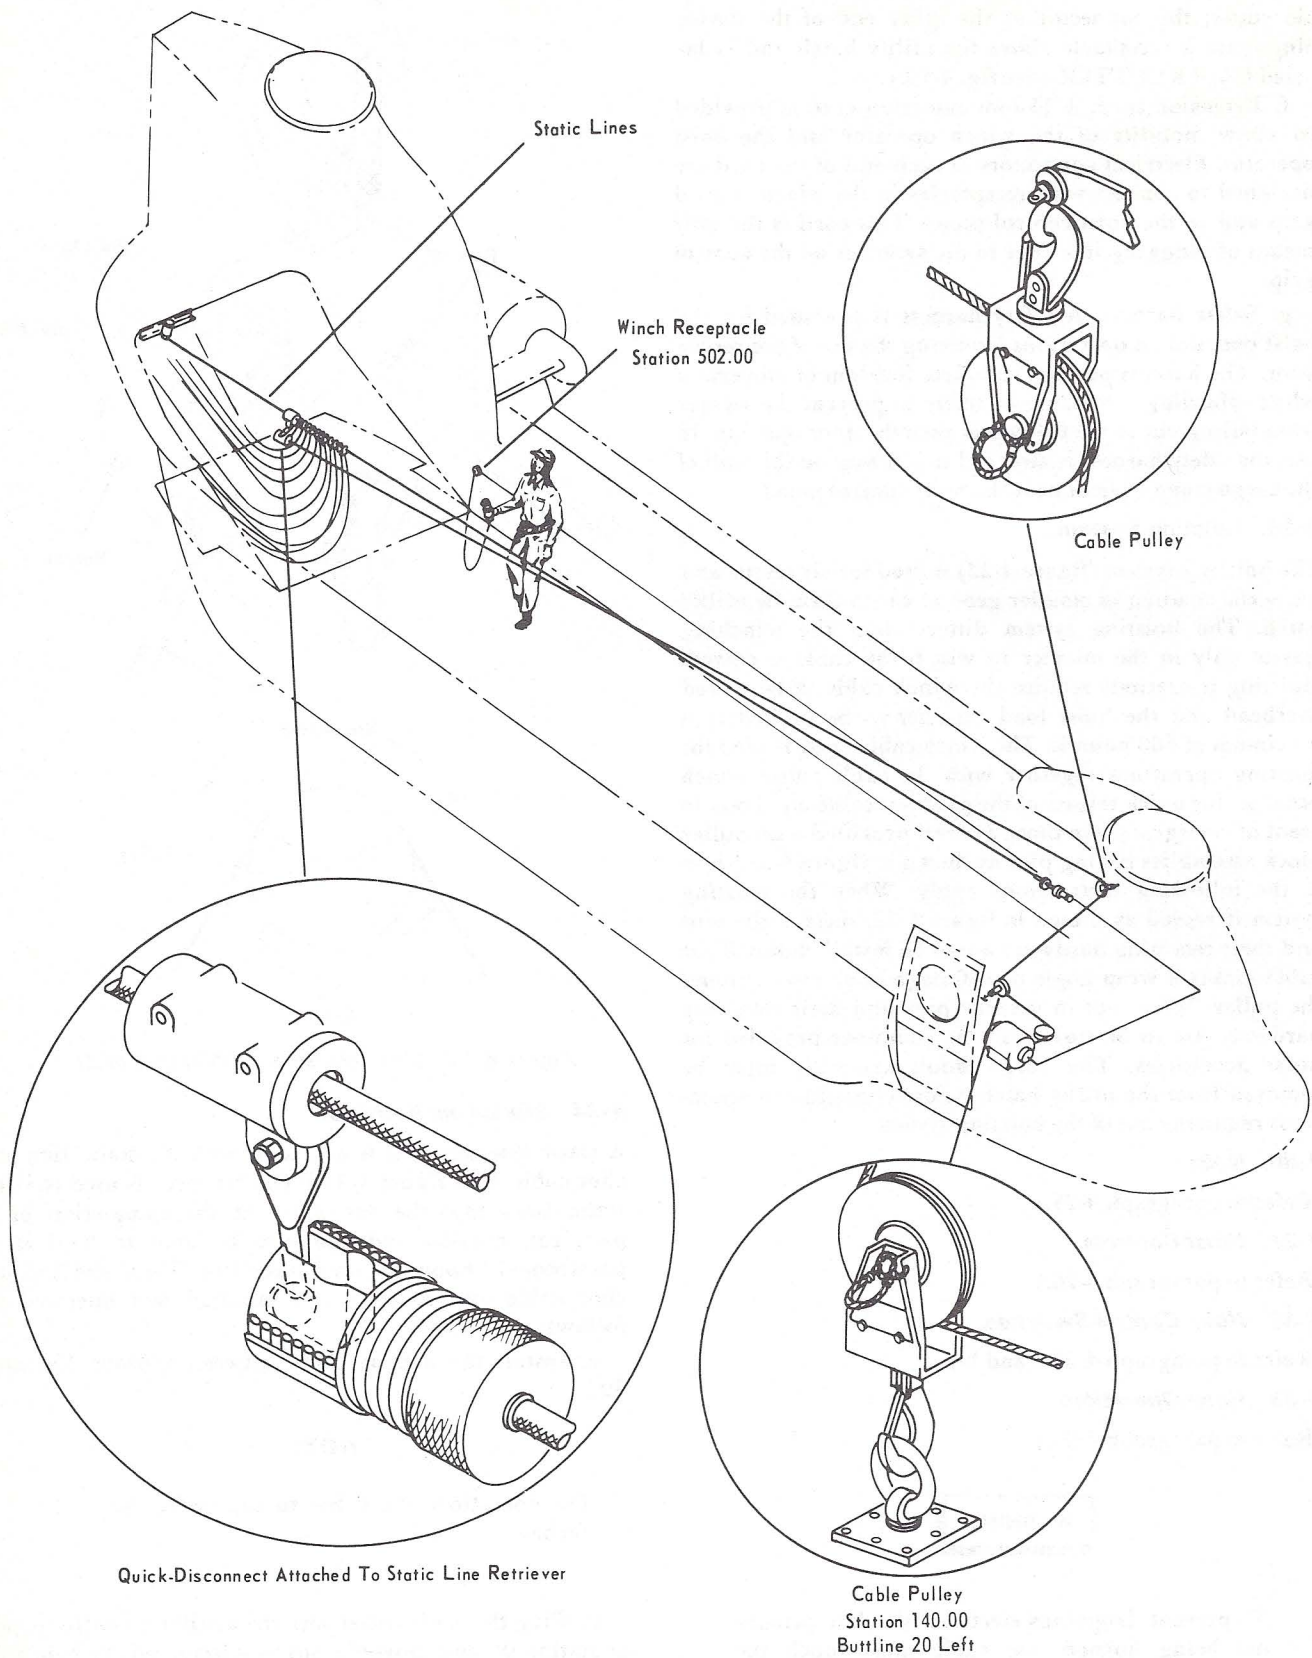

Figure 4-23. Static Line Retriever System
A static line retriever is provided with the static line anchor cable. (See figure 4-23.) The retriever is used to haul static lines into the helicopter at the completion of a paradrop mission and can also be used to haul in a paratrooper "hung up" on a static line. The static line anchor cable and retriever are installed and operated as follows:
d. Reeve the winch cable through a pulley attached to a 5,000-pound tiedown fitting at station 140, buttline 20 left and then thru another pulley attached at station 120, buttline 18 left (figure 4-23).